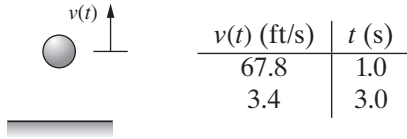

Figure P1.6 A ball thrown upward with an initial velocity v_o .
- (a) Given the data in Fig. P1.6, find the equation of the line representing the velocity $v(t)$ of the ball, and determine both the initial velocity v_o and the acceleration a .